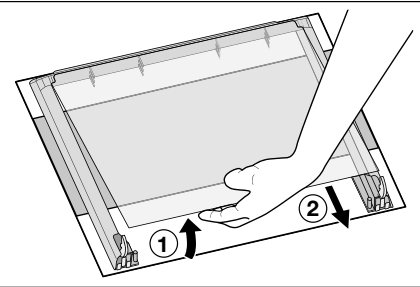

Fig. 7
- 9. Gently lift and carefully take off the uppermost pane (Fig. 7).